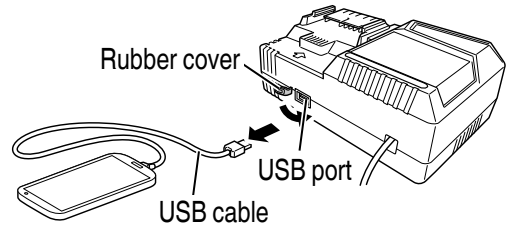

Fig. 9
- (3) When charging is completed
- Unplug the power cord from the electrical outlet. (Fig. 9)